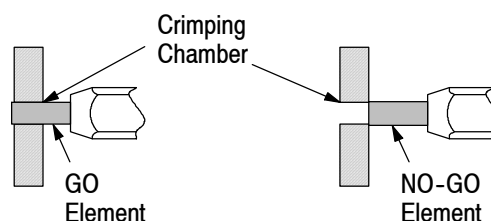

Figure 4
This inspection requires the use of a plug gage conforming to the dimensions provided in Figure 4. TE does not manufacture or market these gages. To gage the crimping chambers, proceed as follows:
3. Carefully insert GO element straight into the corresponding crimping chamber; do not force it. The GO element must pass completely through the crimping chamber. See Figure 4.